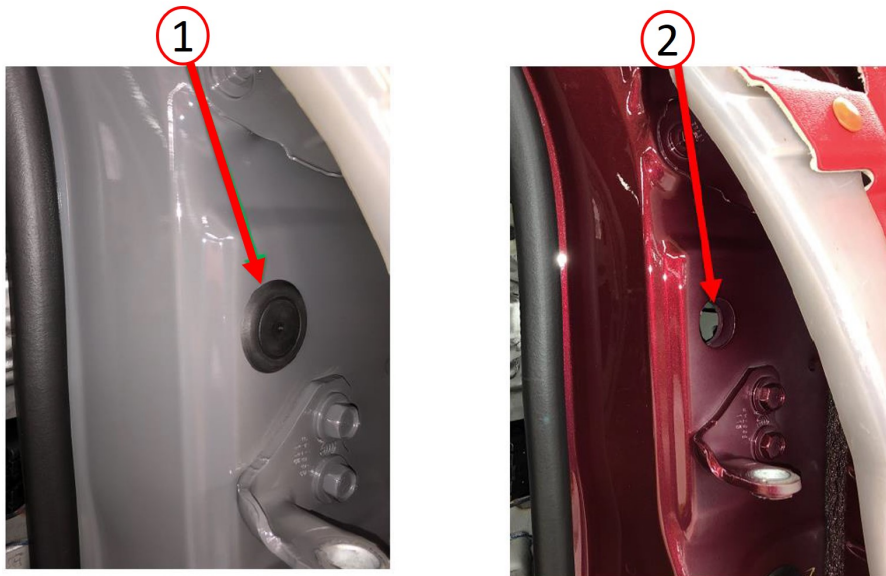

Fig. 2
2. Was the sealing plug in the A-pillar (Fig. 2) ?
8. Install the missing sealing plug in the A-pillar (Fig. 2) .